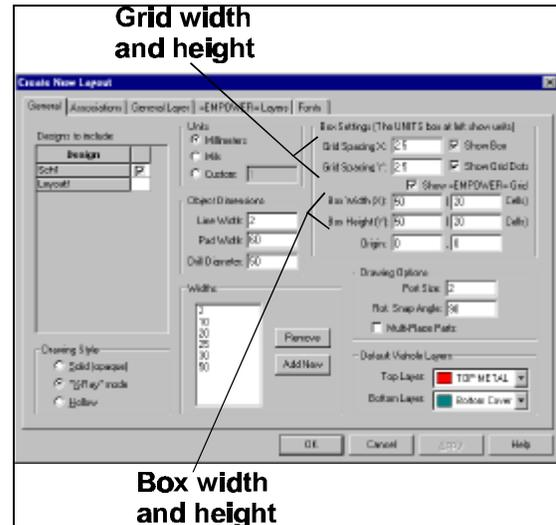

Figure 2: Grid settings are specified in the LAYOUT properties dialog.
All electromagnetic (EM) simulators solve complex EM problems in much the same way: A matrix of equations, or system of equations, is constructed and then solved to find current densities, voltages, or EM fields within the structure. EMPOWER uses the Method of Lines (MOL), which solves to find currents within the metal pattern(s) of a layout. The EMPOWER grid is defined in the LAYOUT properties dialog, shown in Figure 2.
Note: To view the EMPOWER grid, the "Show EMPOWER Grid" box shown in Figure 2 must be checked.